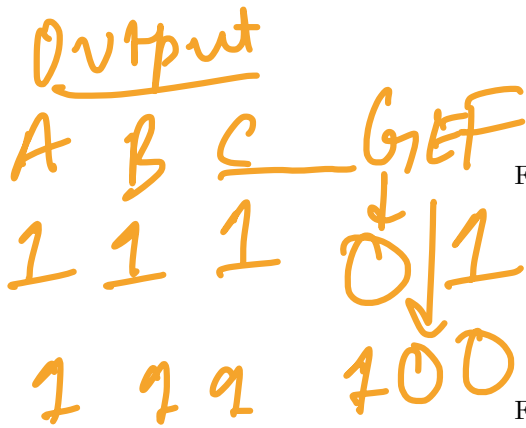

Figure 2: Output for input number "0000"
- If the input number is "0000", then all LEDs except G should be switched ON. Refer Figure 2.